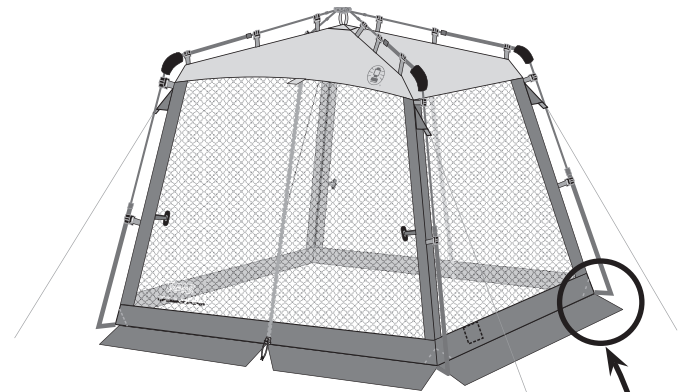
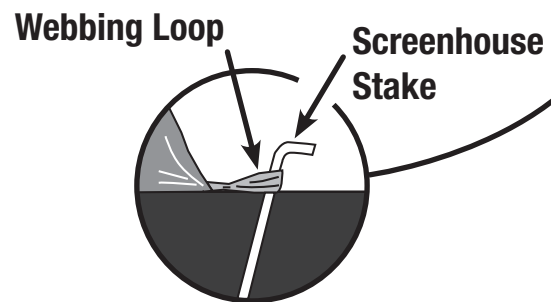

Fig. 5
Fig. 6
- Secure screenhouse by driving stakes through the webbing loops sewn to the screenhouse base. (Fig. 5 and Fig. 6)